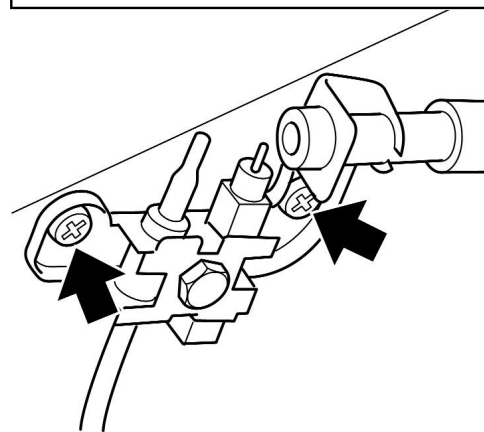

Figure 28. Pilot unit removal
7. Remove the two screws securing the pilot unit (See figure 28).